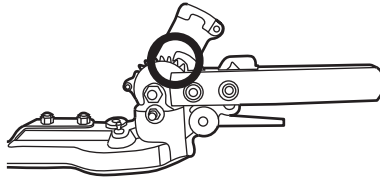

Fig. 28d
4. Release the unlock levers (C4) when the desired angle is adjusted. Ensure that the hook engages between two teeth of the tooth wheel. (See Fig. 28d)